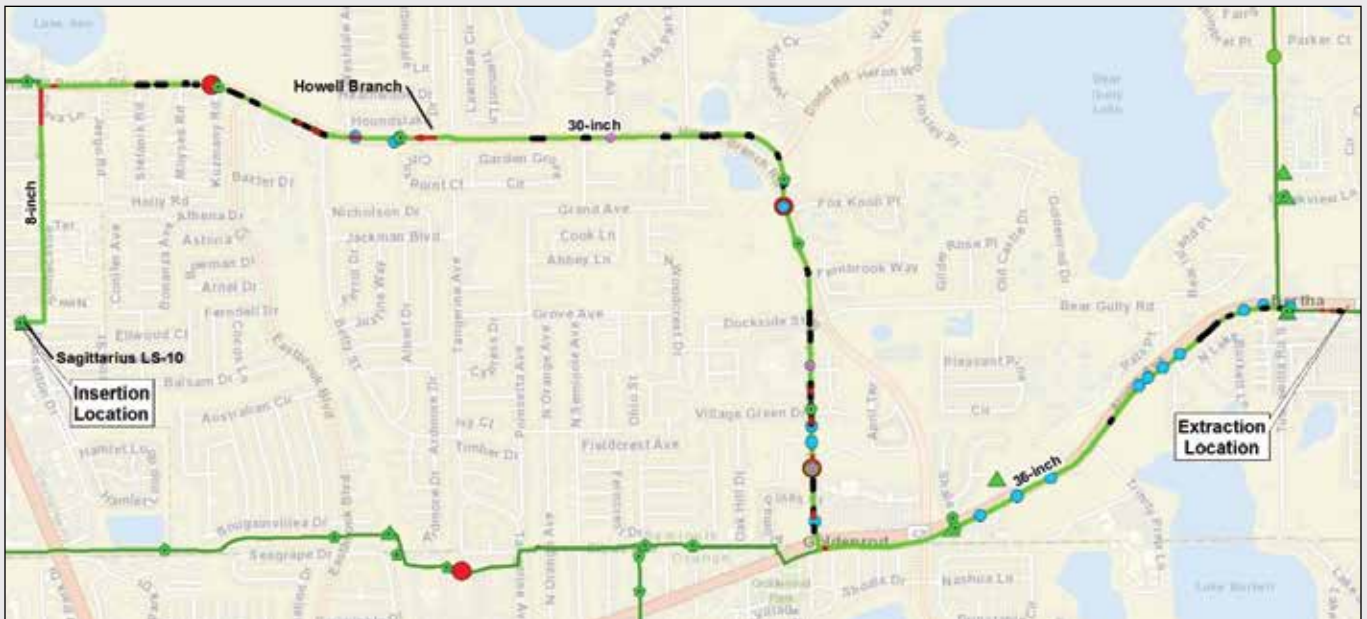

Figure 6. Air pockets shown in red, and slightly worse areas in black
The locations of the air pockets and slightly worse areas detailed above are plotted in the Figure 6 map with the air pockets in red, and slightly worse areas in black. The slightly worse areas are distributed throughout the entire length of the Howell Branch force main. The air pockets are generally in the first third and last third of the 30-inch pipe near the manifolding pipe locations, or within proximity to existing ARVs. When comparing the locations of the air pockets and slightly worse areas, six (6) of